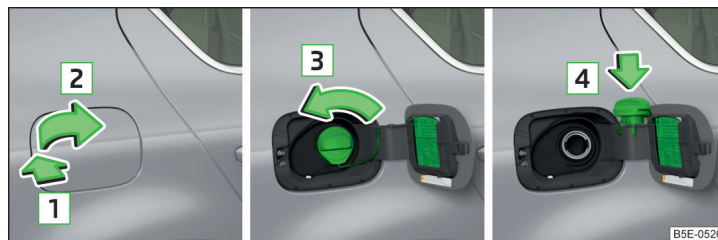

Fig. 310 Open fuel filler flap/unscrew tank cap/place the tank cap on the fuel filler flap
- Press the fuel filler flap in direction of arrow **1** and fold in the direction of arrow **2** » Fig. 310.